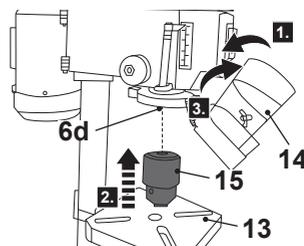

Fig. 6
1. Fold up the chuck guard (14) (Fig. 6, step 1).
2. Assemble the drill chuck (15) onto the spindle (6d) (Fig. 6, step 2).
3. Place a scrap piece of wood (13) on the drill table.
4. Rotate the feed handles (7) to lower the drill chuck (15) to the lowest position and apply downward pressure to force the drill chuck onto the spindle (6d).
5. Fold down the chuck guard (14) afterwards (Fig. 6, step 3).